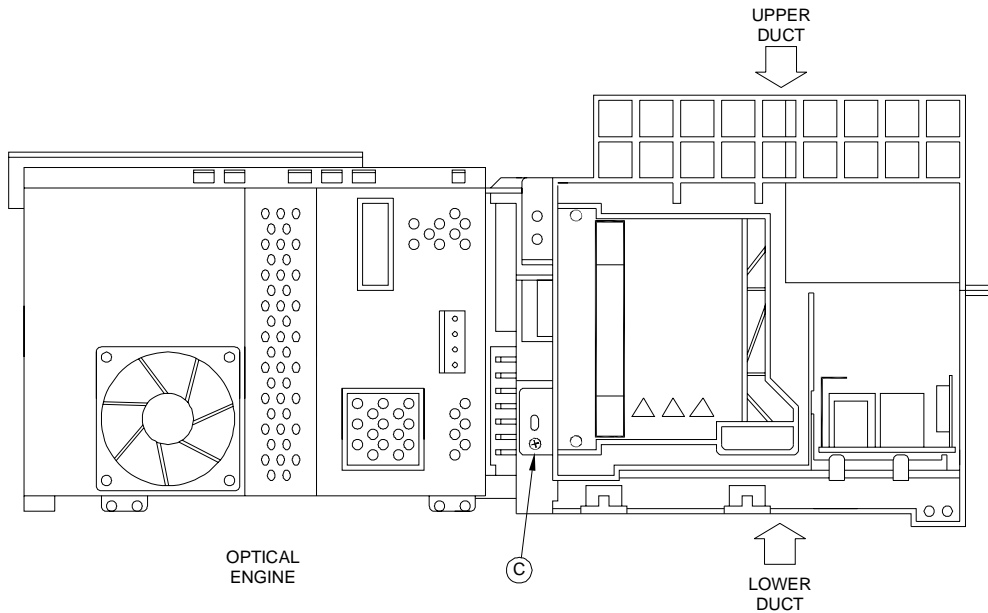

Figure 4: Lower Duct Rear Mounting Screw
- 2) Remove the 2 screws (C) one in front and one in the rear of the lower duct, refer to *Figures 4 and 5*.